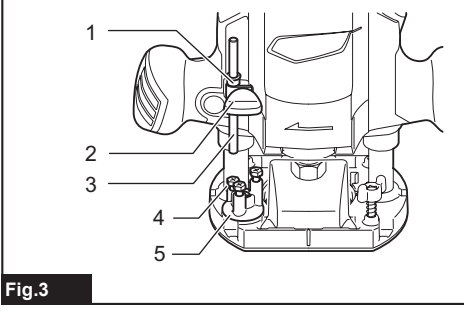

Fig.3
▶ **Fig.3:** 1. Depth pointer 2. Screw 3. Stopper pole 4. Adjusting hex bolt 5. Stopper block